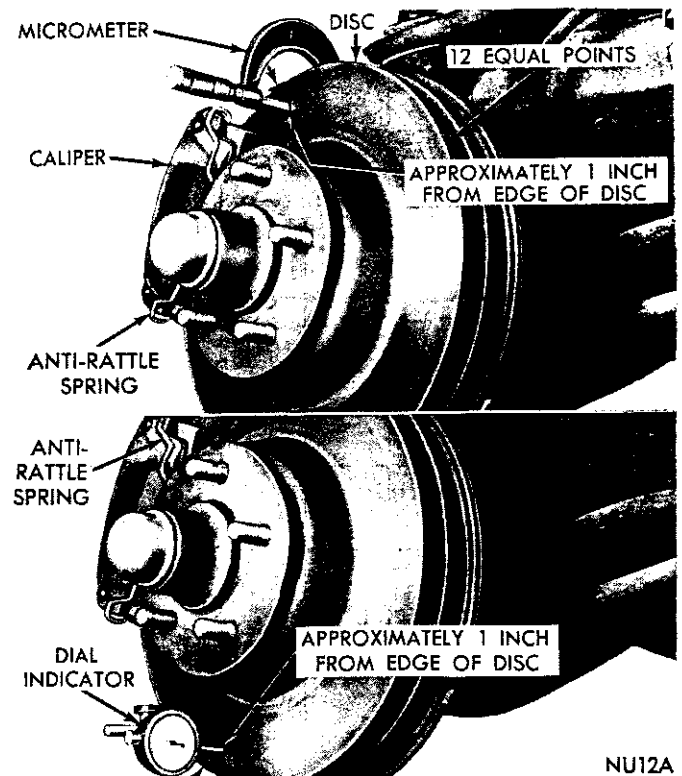

Fig. 19—Checking Braking Disc Run-out and Thickness
(1) Mount dial indicator C-3339 on steering arm with plunger contacting disc approximately one (1) inch from edge of disc. (Fig. 19).
(2) With wheel bearings adjusted to zero end play, check lateral runout. (Both sides of disc). Runout should not exceed .0025 inch. If runout is in excess of specification, install a new disc and hub assembly or reface disc, being careful not to remove more than .015 inch from each side of disc. Be sure and readjust wheel bearings after check.
(3) Thickness variation of disc should be made in conjunction with runout. Measure thickness of disc at twelve (12) equal points with a micrometer at a radius approximately one (1) inch from edge of disc. If thickness measurements vary by more than .0005 inch, disc should be removed and resurfaced or a new disc and hub assembly installed. (Fig. 19).
(4) Light scoring and/or wear is acceptable if heavy scoring or warping is evident, the disc must be refinished or replaced (See Refinishing (Refacing) Braking Disc). If cracks are evident the hub and disc assembly must be replaced.